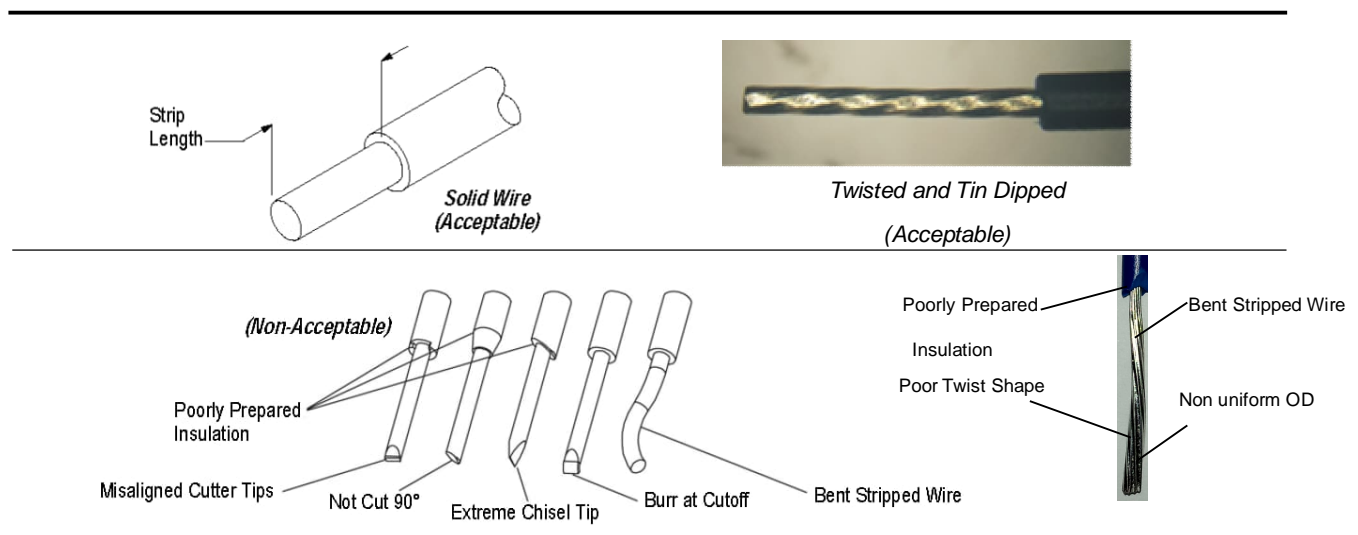

Figure 2
When preparing stranded wire, it is recommended to twist strands after stripping the insulation. The strands need to be well organized and in a uniform straight style. The stranded wire needs to be coated with Tin. Too much Tin coated is not allowed. Tin dipping depth is same as wire strip length. The wire strip length is $9.0 \pm 0.5\text{mm}$ and the typical unacceptable wire preparation example is shown on Figure 2.
2. If using customer-assembled connectors, strip two wires with applicable copper conductors provided in Figure 2.